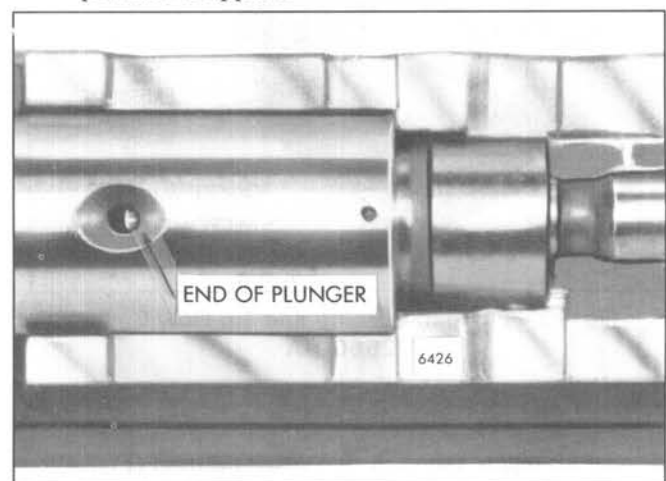

Fig. 16 – End of Plunger Shown in Port
7. Hold the plunger against the micrometer and rotate the carriage adjustment screw until the plunger almost closes the port (Fig. 16).